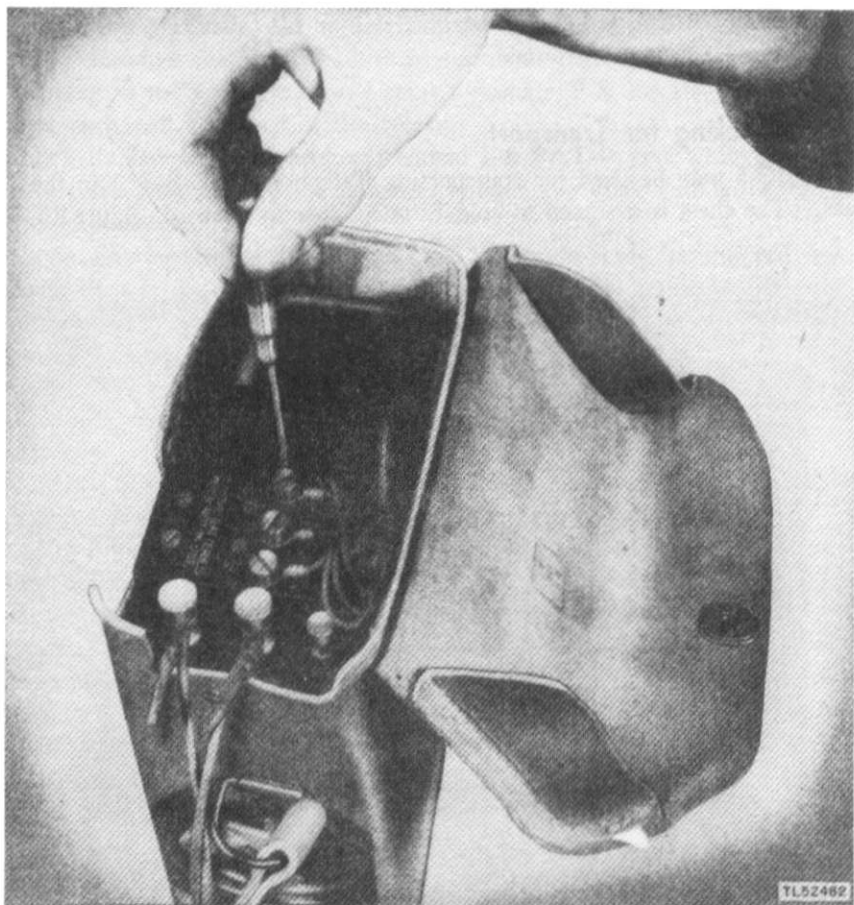

Figure 16. Adjustment of screw switch.
a. LOCAL BATTERY. With a screw driver turn the screw switch counterclockwise as indicated by the arrow pointing to LB until the screw comes to a stop. (See fig. 16.)